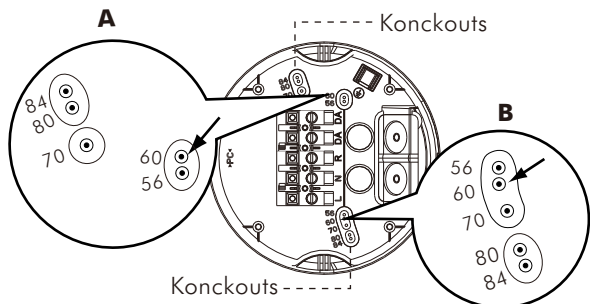

FIG.7-A
- 3.4.1.3 There are 5 pairs of knockouts with various distances from 56mm to 84mm on the bottom base to be selected for different mounting applications (See FIG.7-A). Select two same figures on both ends for the corresponding distance for fixing (See FIG.7-B).